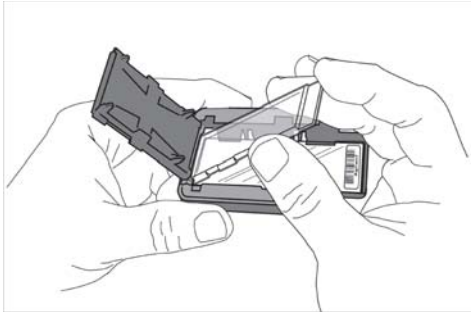

Figure 4 Inserting the ozone-barrier slide cover
- In environments in which the ozone level exceeds 5 ppb, immediately put the slides with active microarray surface (“Agilent”-labeled barcode) facing up in a slide holder. Make sure that the slide is not caught up on any corner. Put an ozone-barrier slide cover on top of the array as shown in Figure 4. Refer to the *Agilent Ozone-Barrier Slide Cover User Guide* (p/n G2505-90550), included with the slide cover, for more information.